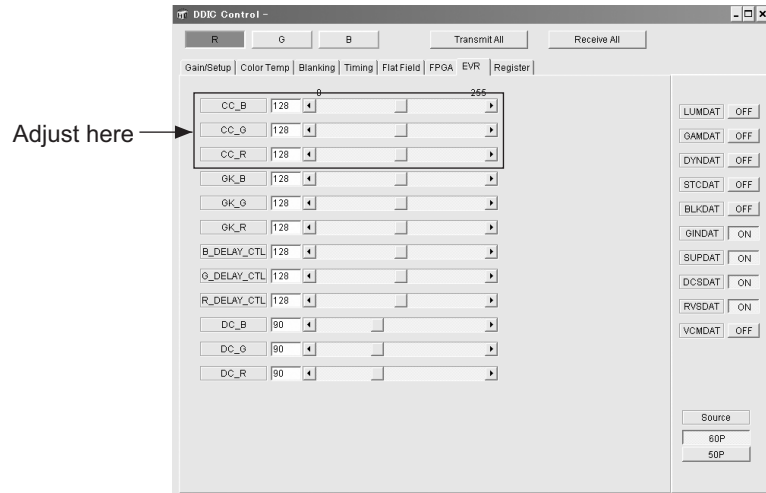

Fig.4
(10) In the [DDIC Control][EVR] tag, find the point by sliding a CC slider (CC_R for red, CC_G for green and CC_B for blue) where the photo-sensor waveform becomes minimum . Refer to Fig.4.